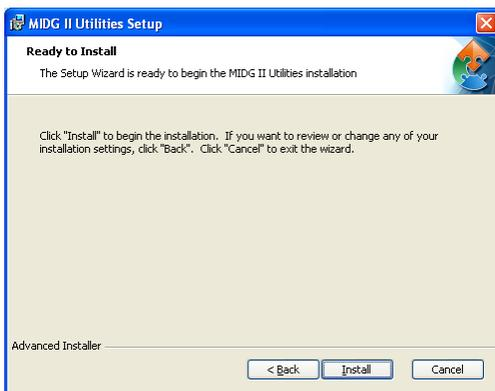

Figure 7. Ready Installation screen
- 9. **Press the "Install" button at the bottom of the screen to continue with the installation (Figure 7).** At this point the "Installer" screen will display the progress of the installer as it installs several files and programs on to hard drive of the PC or laptop. The location of these files will be where ever the installation location was designated in Step 7.